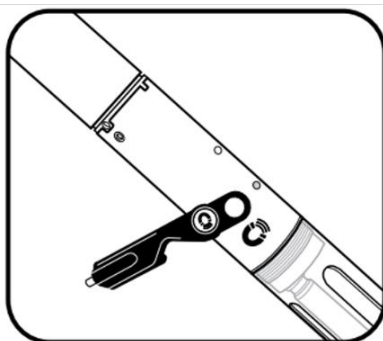

Figure 57. Wake up the Multisonde!
**STEP 1** | Activate the Multisonde's Bluetooth. Use a magnet or Multisonde tool in the area shown in Figure 57 and Figure 58. This is the best way to access the sensor while it is connected to an external power source.